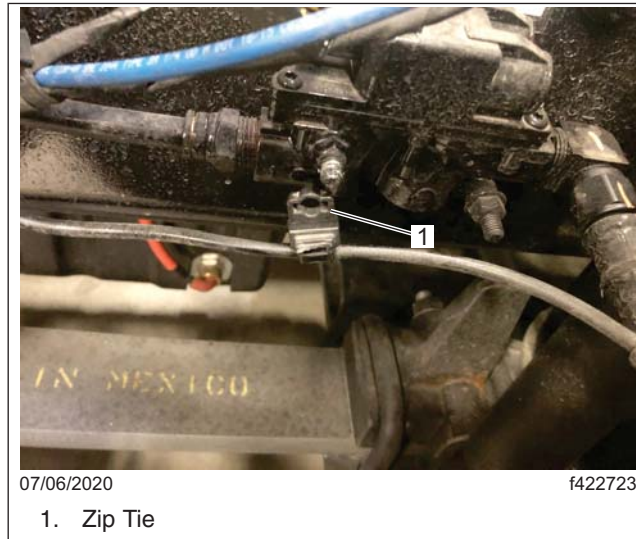

Fig. 4, ABS Zip Tie
3. Remove the antilock braking system (ABS) zip tie from the modulator mounting bolt. See **Fig. 4**.